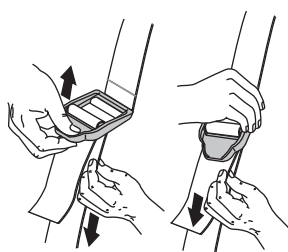

Fig. 19
4. Adjust length to fit the operator's size. Pull tab to lengthen, pull strap to shorten (Fig. 19).